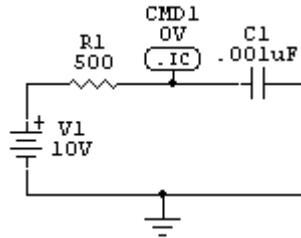

Figure 3.10. Notice that the resistor and capacitor now have different label-values.
- 9 Double-click the capacitor C1, change the Label-Value from 1uF to .001uF, and then click OK. Compare your schematic with Figure 3.10.